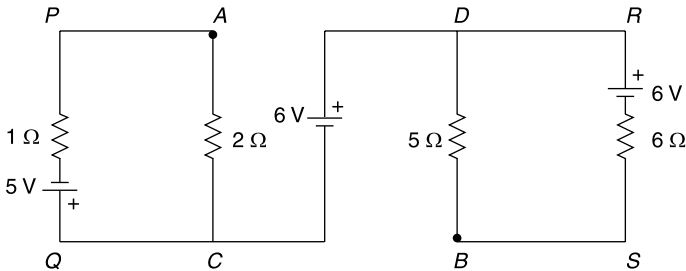

Fig. 14.22
14.50 Determine the difference of potential between the points A and B in the network shown in Fig. 14.22